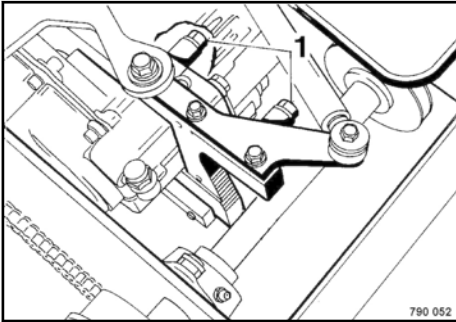
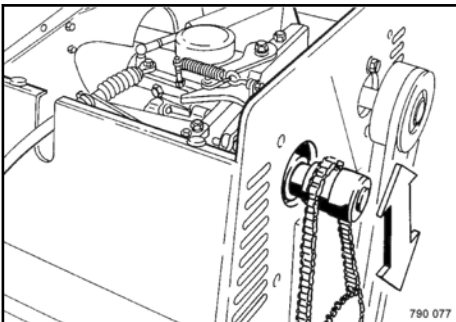

Fig. 79
Fig. 80
Loosen the transmission fastening screws (1) ↪ Fig. 79.
Displace the transmission ↪ Fig. 80, until the chain has the correct tension; at the same time tighten the transmission fastening screws (1) ↪ Fig. 79.